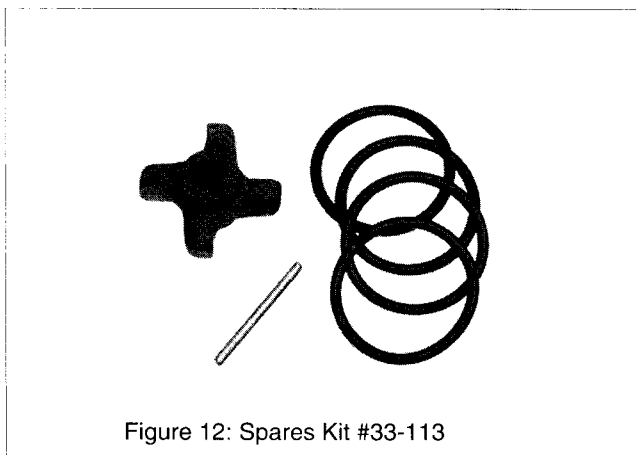

Figure 12: Spares Kit #33-113
4. If O-rings are kinked or abraded, or if paddlewheel bearing assembly is worn, order **AIRMAR** Spares Kit #33-113 (Figure 12) which contains: